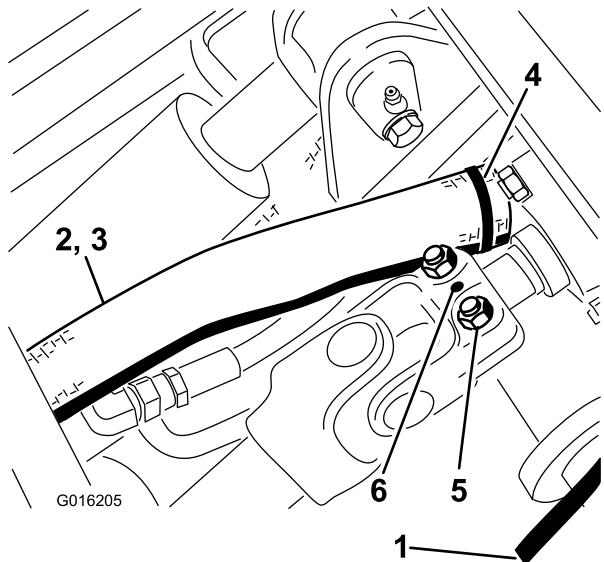

Figure 75
4. Remove the roll pin and loosen the two capscrews securing the drive shaft to the gearbox shaft (Figure 75). Slide the drive shaft off the gearbox shaft.